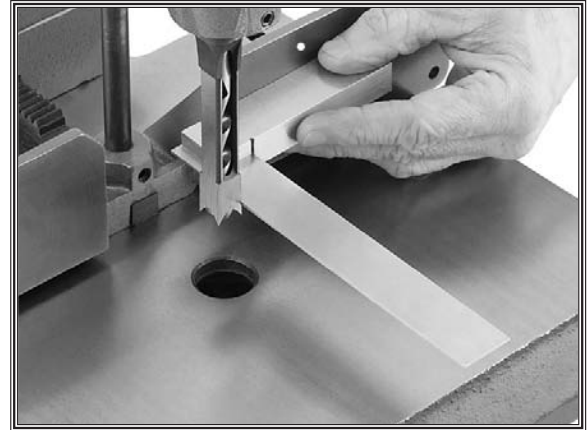

Figure 5. Example of squaring a chisel.
1. Install the chisel into the cone, rotate it so the opening is positioned toward the operator and is square to the fence, as shown in **Figure 5**, then secure with the knob.